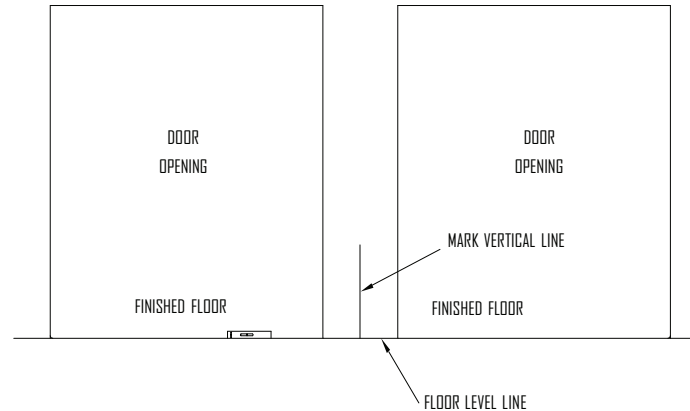

FIG. 12
- a. Make vertical frame mark between door openings, for common member (Fig.12).
- b. Make horizontal line flush with floor level (Fig.12).
- a. Place vertical frames on clean, flat 2 x 4 supports (Fig. 12).